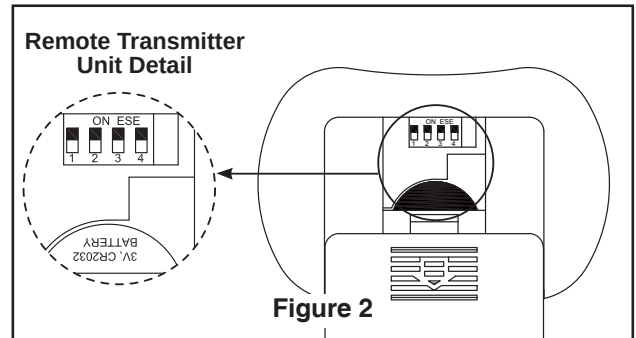

Figure 2
The fan must be hung with at least 7' of clearance from floor to blades. (Figure 2)
- ☐ 1. To set the transmitter code, remove battery cover by pressing firmly below arrow and sliding cover off. Slide code switches to your choice of up or down position. Factory setting is all up. Do not use this position. With a small screwdriver or ball point pen slide firmly up or down. Replace battery cover on the transmitter (Figure 2).